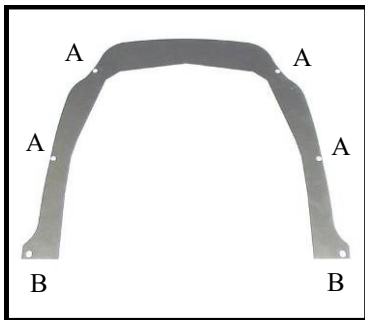
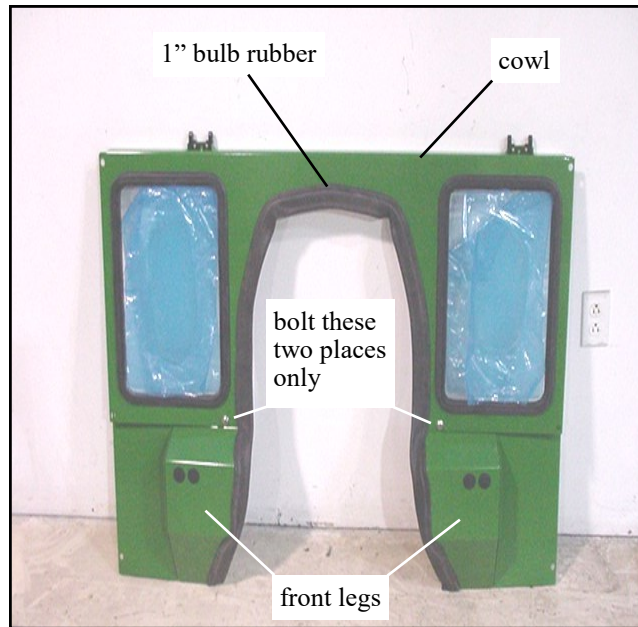

Fig. 3.1
Fig. 3.2
Note: fig. 3.1 shows the cowl insert and which four holes to bolt up initially (bolt location "A"). Bolt the cowl insert to the inside surface of the cowl.
3.2 Next, bolt the front legs onto the inside surface of the cowl insert so that the cowl insert becomes sandwiched between the cowl and the front legs (bolt location "B"). Attach the front legs using a total of two bolts (5/16-18 x 3/4" long), four steel washers, two nylon washers, and two locknuts. Install 1" bulb rubber (approximately 80") along the sheet metal edges as shown in reference fig. 3.2. Trim any extra bulb rubber.
Pre-assemble the cowl and front legs (as shown in fig. 3.2) by fastening together at the inside hole only, using two 5/16" x 3/4" long button head screws, steel washers, nylon washers, and locknuts. Locknuts to be on the inside surface of the cowl assembly. Install 1" bulb rubber (approximately 80") along the sheet metal edges as shown in fig. 3.2. Trim any extra bulb rubber. Note: the cowl insert (shown in fig. 3.1) and the associated hardware is NOT required on the 20 Series model numbers listed above.